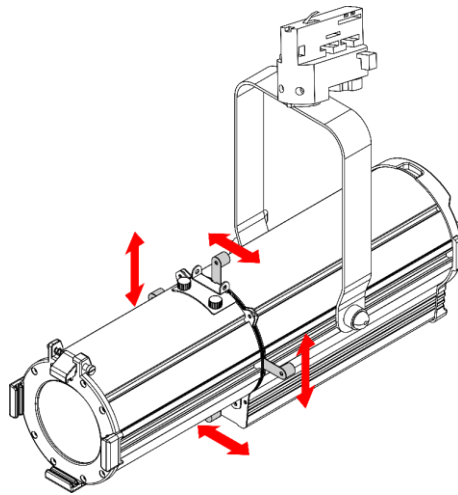

Fig. 20
Move the **framing shutters (06)** back and forth to modify the shape of the beam (see Fig. 20).